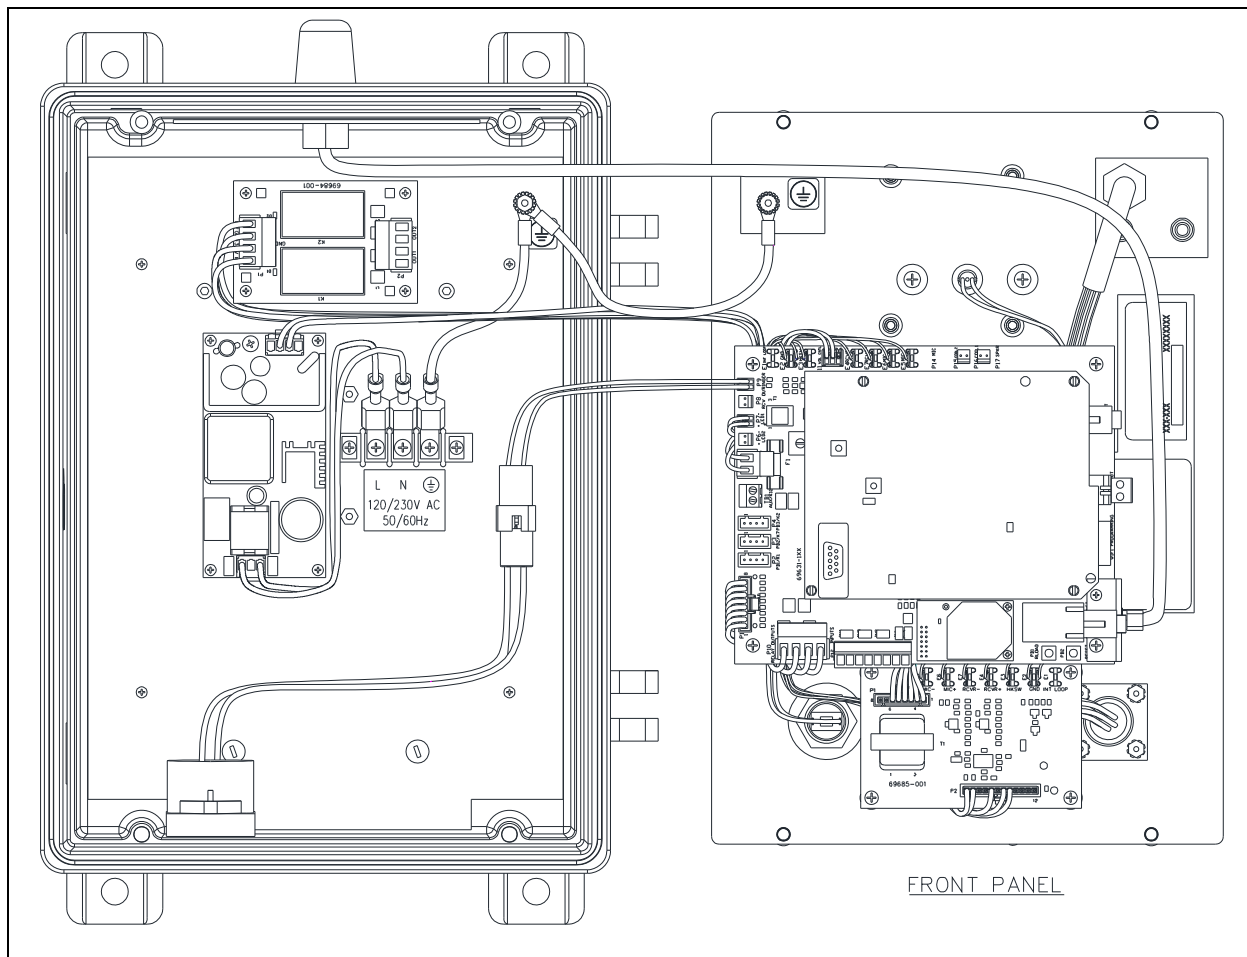

Figure 6. Installation and Maintenance Configuration
1. Remove the four screws from the front panel and turn it to the right so that the interior surface faces you. Allow the wiring to remain connected. The front panel can be hung from the front door by hooking a small piece of wire in the mounting holes of the panel. The front panel interior surface and the back box interior now face you (see Figure 6).